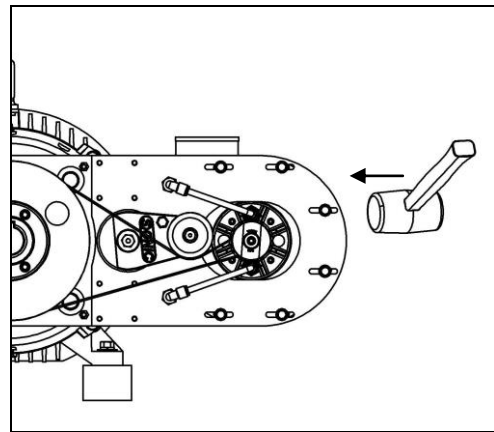
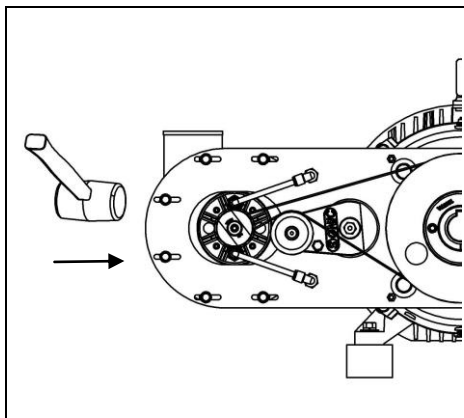

Figure 10 – Adjust Belt Gap
Figure 8 – Adjust Belt Gap
5. If a ¾ inch belt gap was not achieved, use a ½ inch box-end wrench to loosen the blower head screws and slide the head. (See Figure 8 and Figure 10)
6. Using the ½ inch box-end wrench, reinstall the belt guard and add the (4) nuts.